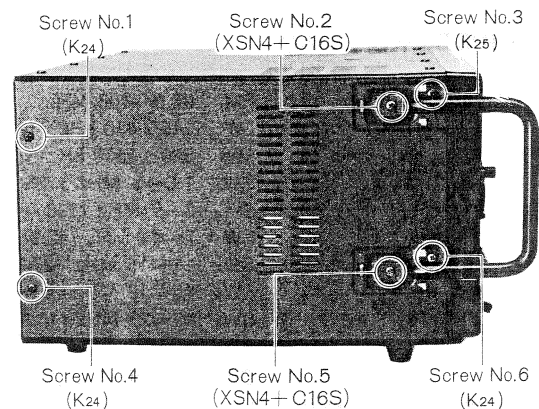

Fig. 3
3. Remove the six (6) screws (nos. 1~6) for the handle and cabinet cover, as shown in fig. 3.